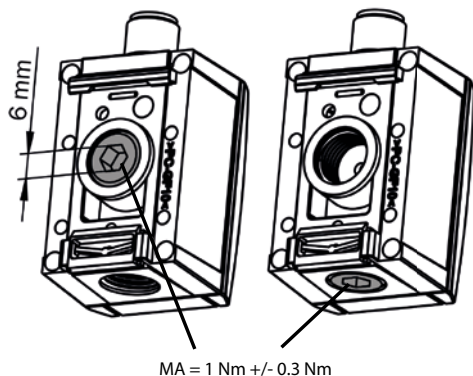
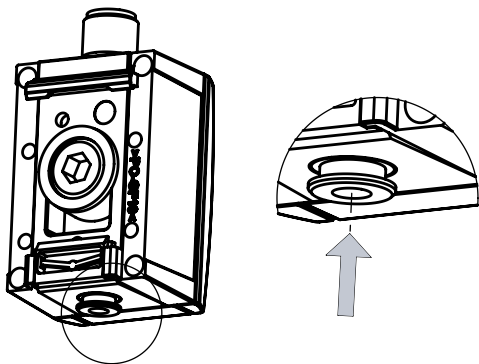

Figure 13: Pressure connection via the G 1/4 female thread
Figure 14: Plug connection for 4 mm pneumatic hose (push-in fitting, PIF)
The electrical connection is established using a round connector M12 x 1. Table 3, Figure 13, Table 4, and Figure 14 display the pin assignments for the various device versions/existing output signals.
7.4.2 Menu structure, description of the parameters, and factory settings (Figure 14)